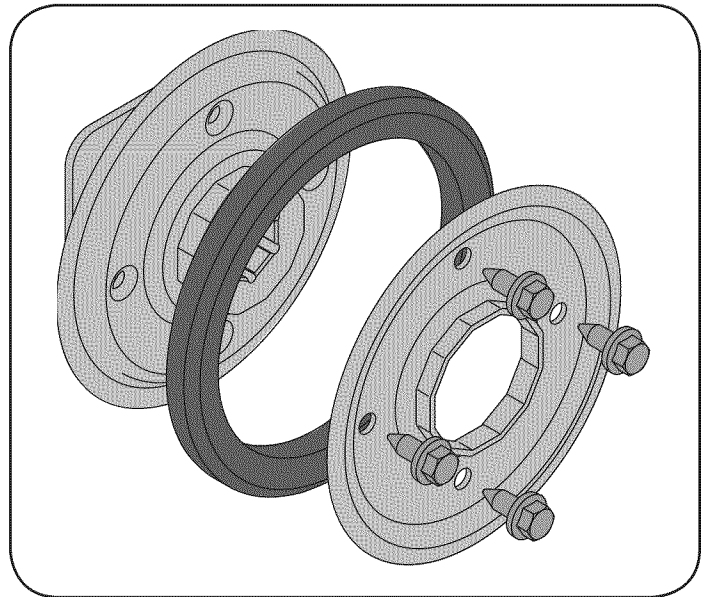

Figure 32
1. Remove the four screws which secure the friction wheel's side plates together. See Figure 32.